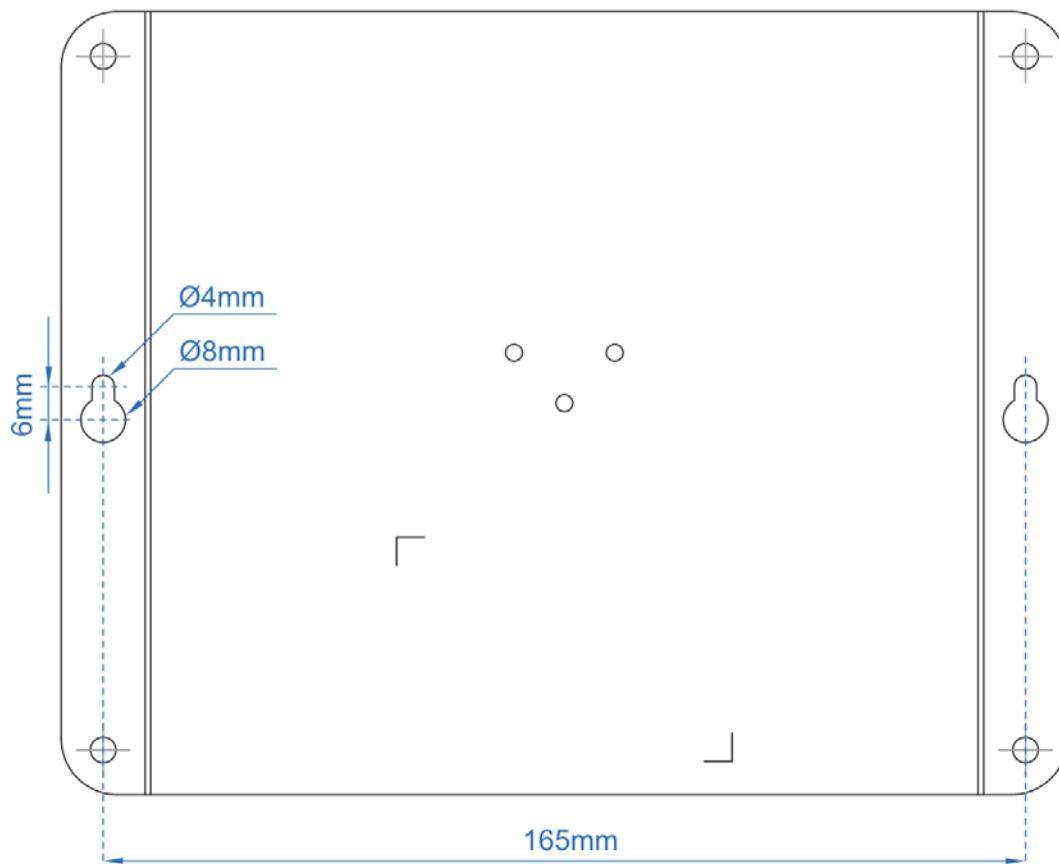

Figure 2-11: Getting Mounting Holes Aligned
Step 1: There are 4 holes with 8mm diameter on the wall mount bracket of the Industrial wall-mount Gigabit router as shown in Figure 2-11. The distance between the 2 holes is 165mm of WGR-500-4PV and WGR-500-4P and the line through them must be horizontal.